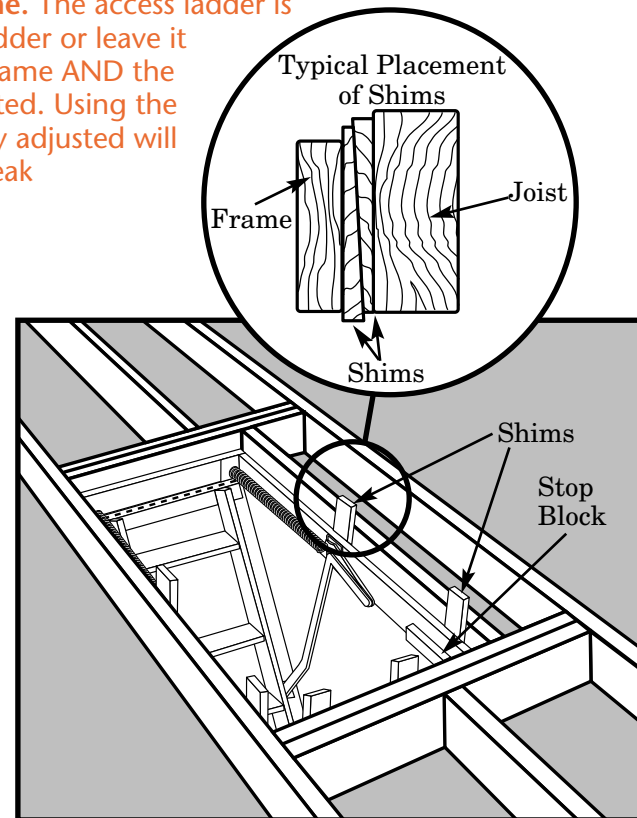

Figure 23
STEP 1. Shim the access ladder with wood blocks or tapered shim stock at the locations shown in Figure 23 until the access ladder fits squarely in the frame you built. Tapered shims should be inserted from above and below (where possible).